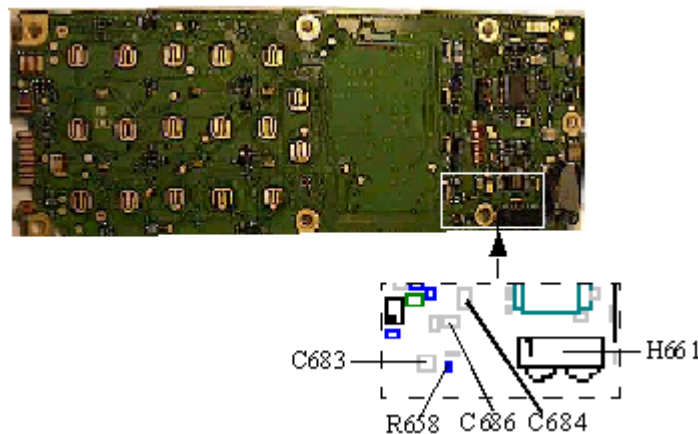
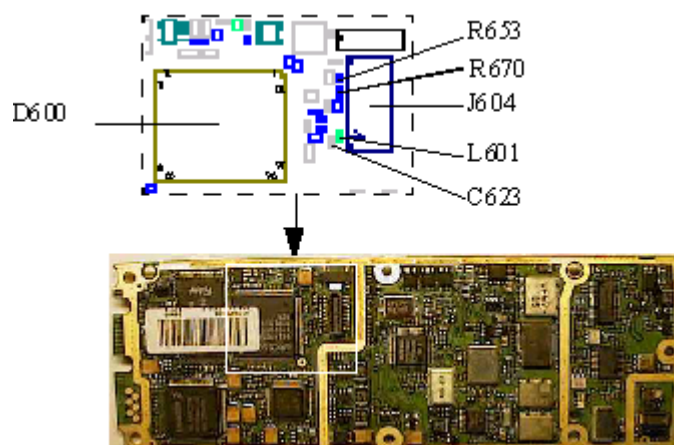

Fig. 11.1
Fig. 11.3
Replace H661 (class A, fig. 11.1).
Check the solderings at D600 pins 47, 62, 64, 65 and 66 (fig. 11.3).
Check the solderings at J604 (class A, fig. 11.3) and make sure the contact pins aren't damaged.
- If the contact pins and the solderings are ok, replace H661 (class A, fig. 11.1). If that doesn't help, replace C683 (class A, fig. 11.1).
If the fault remains, measure the resistances of R670 (~100 kohms, fig. 11.3), R653 (~47 ohms, fig. 11.3), L601 (~0 ohms, fig. 11.3), C623 (>1 Mohms, fig. 11.3) and R658 (2.2 kohms, fig. 11.1, all of class A).
Measure the resistance of C686 (>100 kohms, fig. 11.1).
- If it's less, replace C686 and C684 (both of class A, fig. 11.1).